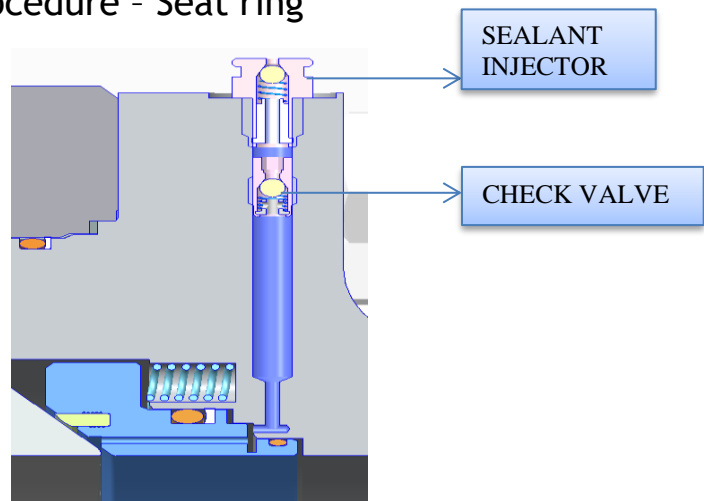

Fig.7. Seat sealant injection
- Attach the gun loaded with sealant on the sealant injector (fixed on the valve) (Fig.7.) and charge the sealant.